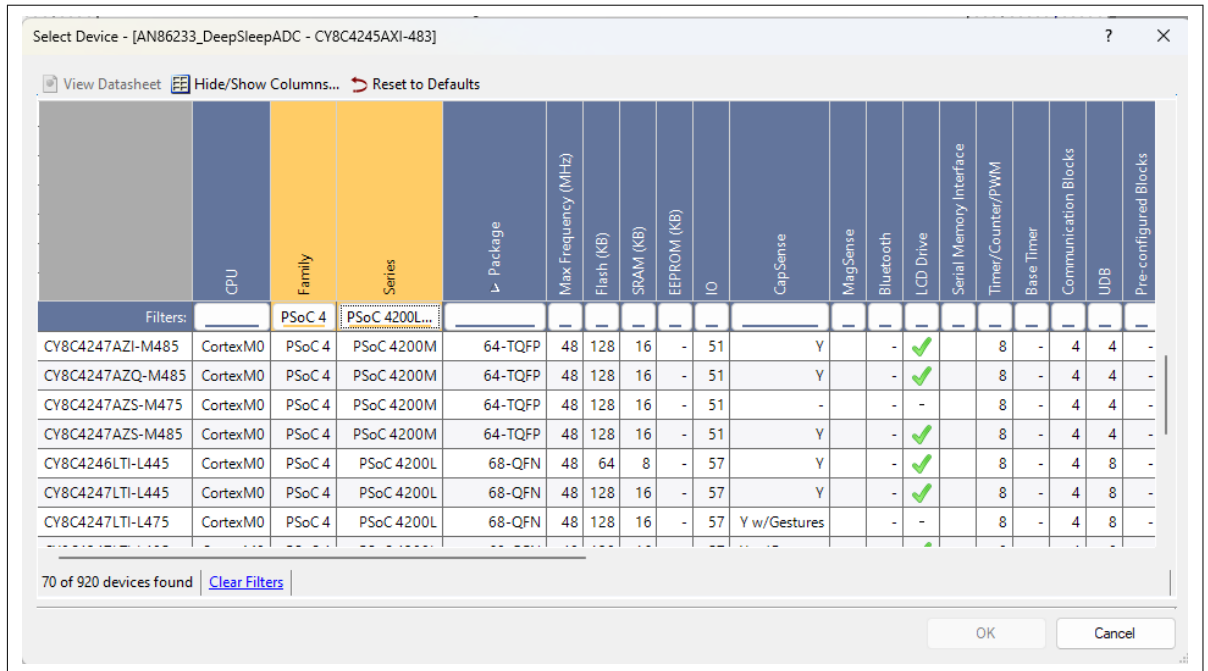

Figure 12 Device selector window
3. Select the appropriate device from the pop-up menu that appears, as Figure 12 shows